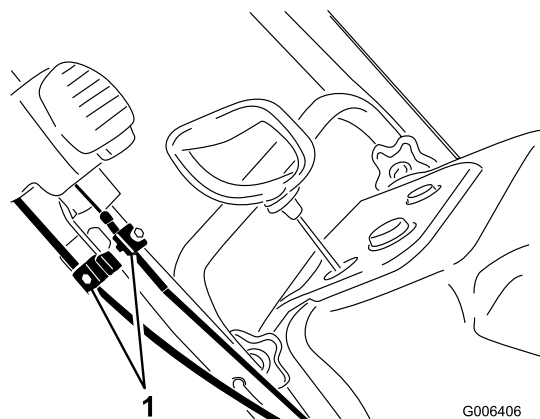

Figure 41
1. Loosen the two Quick Shoot control cable clamps (Figure 41).